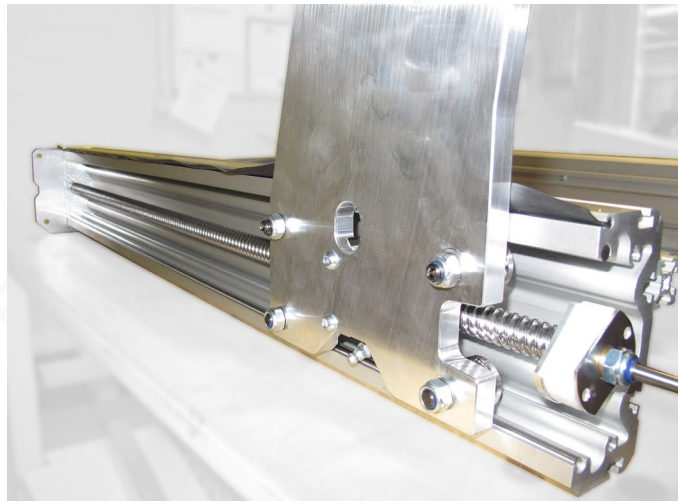

Fig.17: Installation of the right portal cheek
- Trace the right portal plate into the guide on the right side of the table, as shown in Fig. 17. To do this, loosen the screw connections of the eccentrics if necessary and turn them with an Allen key until the rollers run tension-free on the rails.